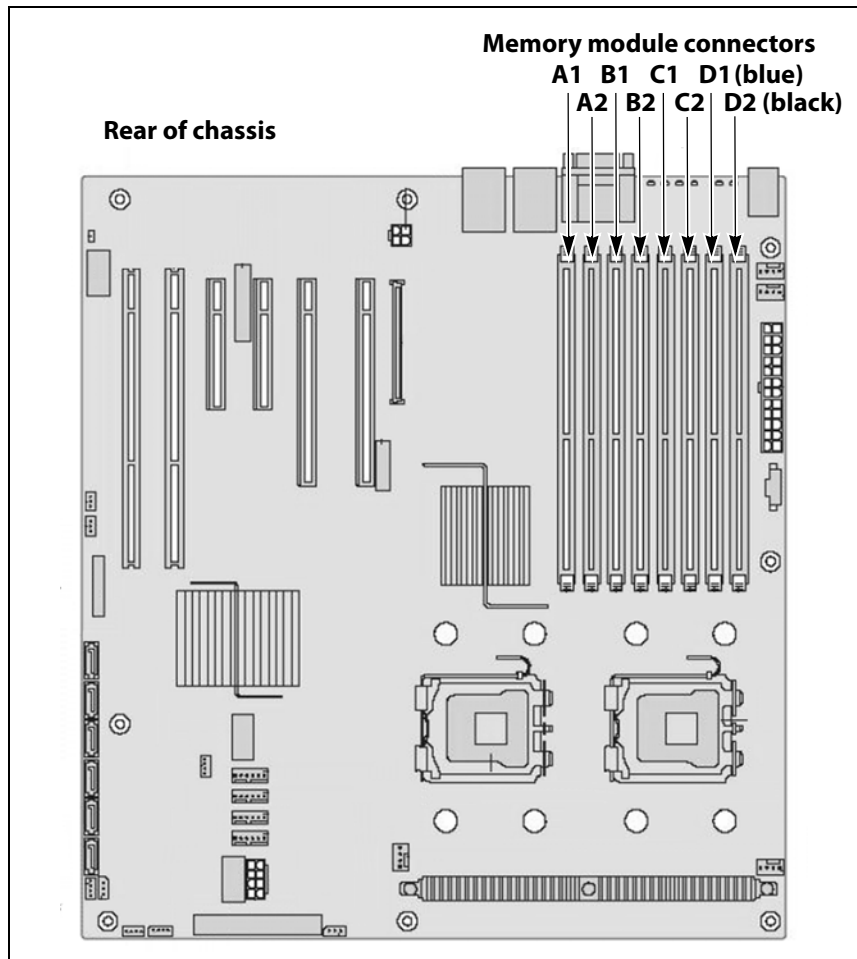

Figure 5 Memory module connectors in the nTier500.
4. Memory modules must be populated in the order A1, B1, C1, and D1, then A2, B2, C2, and D2 (see Figure 5 on page 11). Touching only the edges of the new memory module, align the new module with the empty connector.